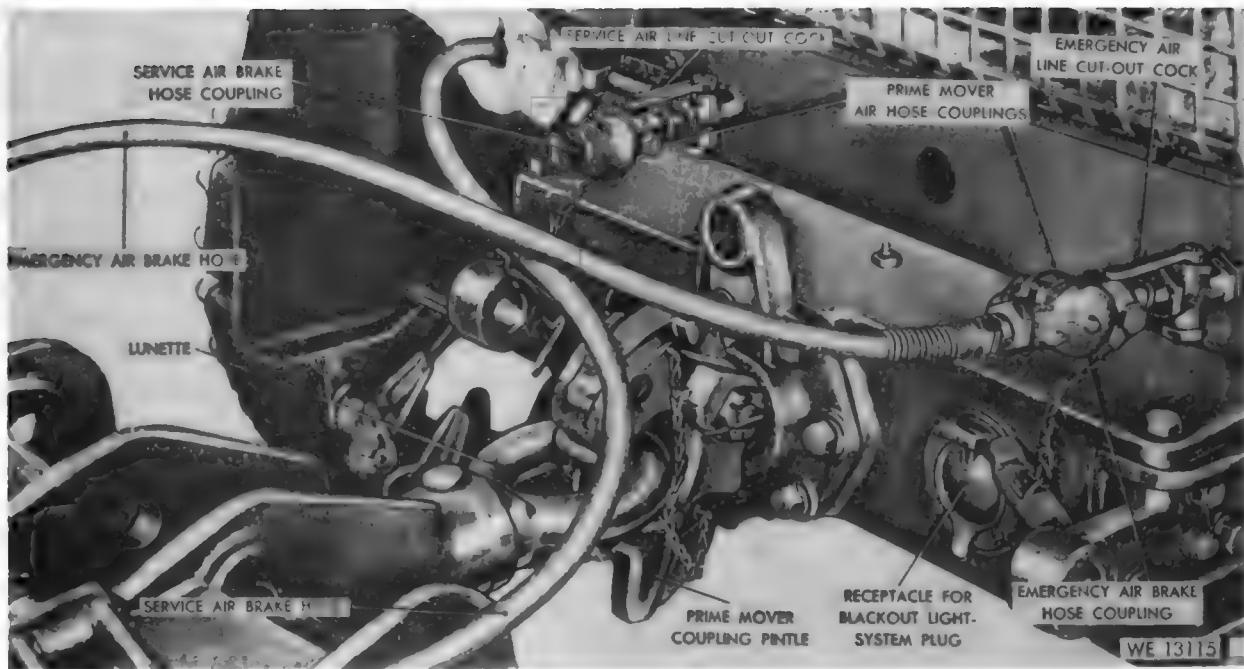
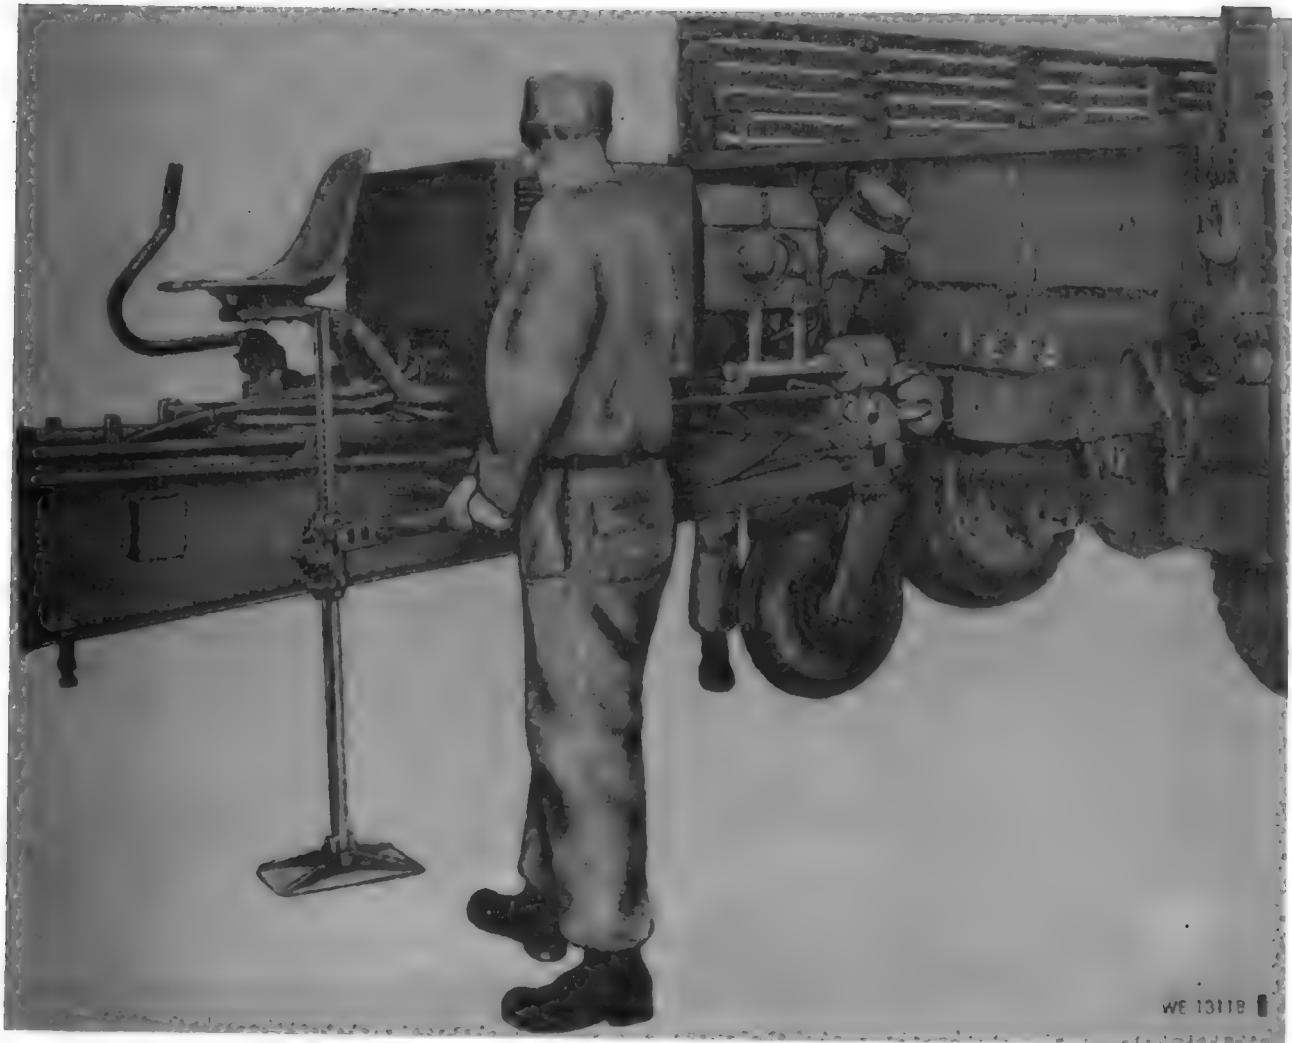

Figure 36. Uncoupling air brake hose from prime mover.
Figure 39. Removing or attaching howitzer from or to prime mover.
air line cutout cocks on the tail end of the prime mover (fig. 36). Uncouple the service and emergency air brake hose couplings from the prime mover air hose coupling.
- (4) Remove cover and unstrap the trail jack assembly (M123A1 howitzer) (fig. 30) from the left trail and lift the trails with the jack (fig. 39); disconnect the lunette (fig. 36) from the prime mover. To remove howitzer M114 or M114A1 from prime mover, three men will lift each of the trails by the trail handles
(fig. 2), disconnect the lunette from the prime mover coupling pintle (fig. 36), and lower the trails to the ground. Unload the prime mover and move it from the vicinity of the weapon.